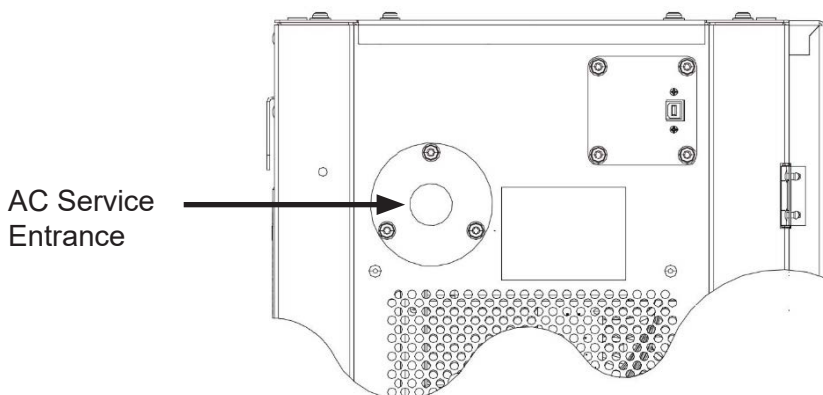
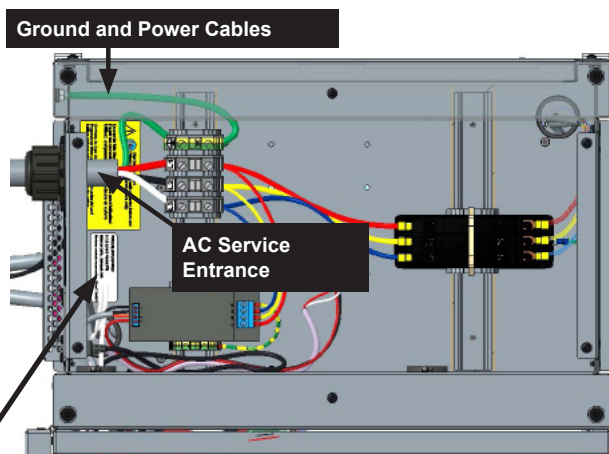
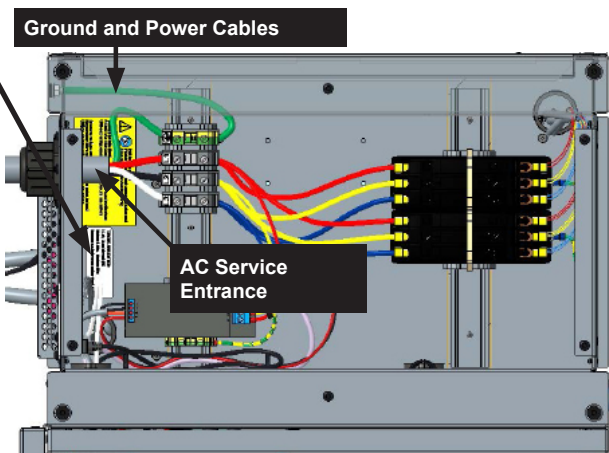

Figure 15 AC Service Entrance
Figure 16 AC Service Entrance
Figure 17 AC Service Entrance
4.6.2. Connect a NEC-approved AC shielded input cable (such as type SOOW) or conduit to the charger through the AC service entrance (Figure 15, Figure 16, and Figure 17), which is the hole located near the top left corner of the charger.
The USB connector is located in the top left corner of the charger (Figure 15).
Ensure that ground and power cables have been properly stripped (of approximately 0.5 in. [12.7 mm] of insulation from the ends). Loosen the AC input terminal screws, with a flathead screwdriver, and insert the stripped ends of the ground and power cables. (Figure 16 and Figure 17)